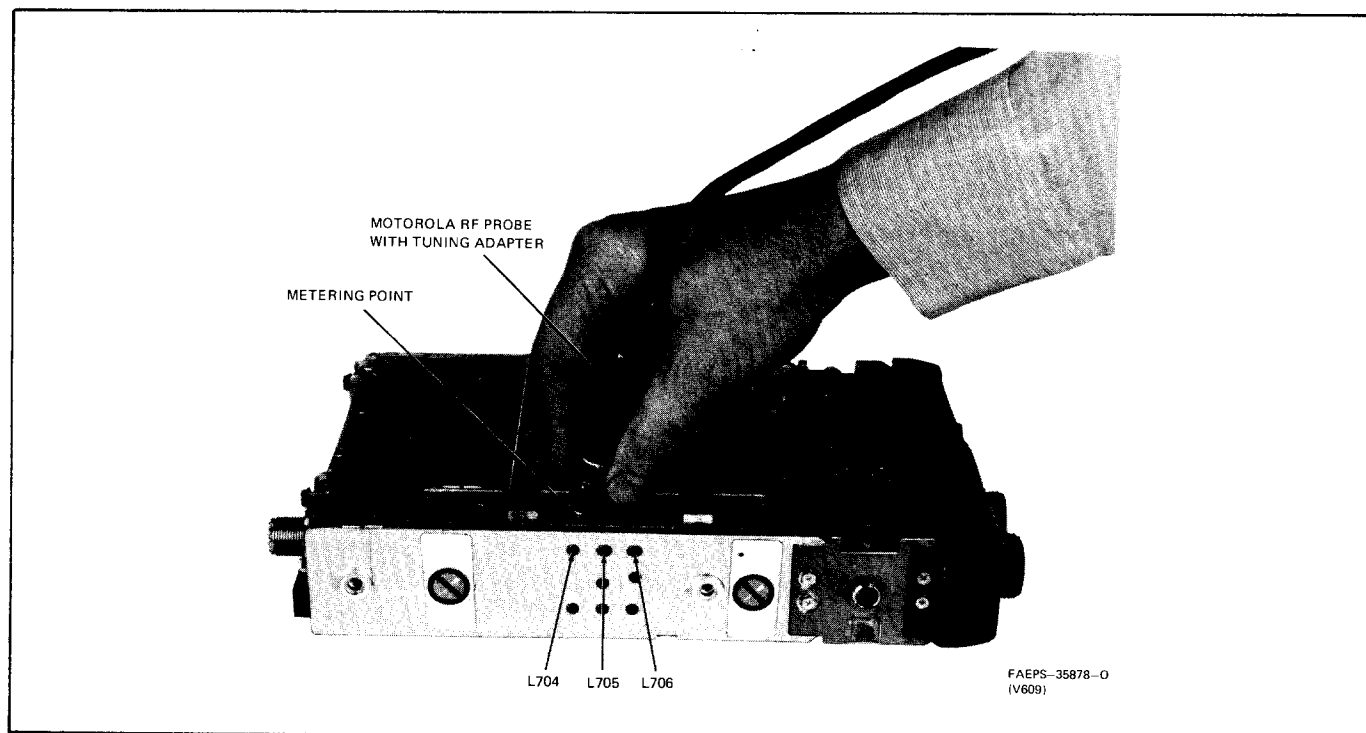

Figure 7. Synthesizer Side Tuning Probe Position
Step 15. Place the radio in the position shown in Figure 7 and place the test probe adapter tip into the hole of the first cavity (L704) of the low range switched filter.